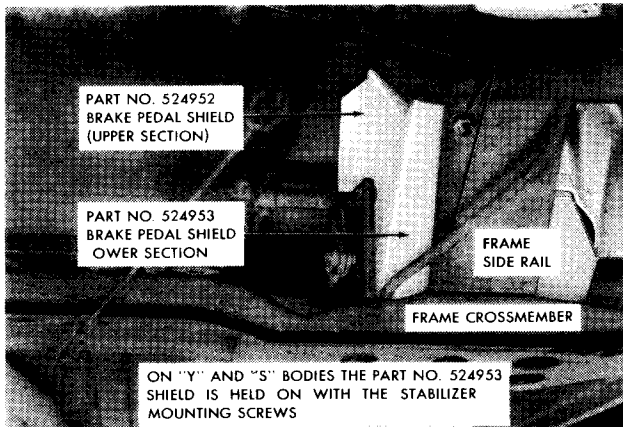

FIG. 5
4. **W-F-C-Q Bodies:** Slide brake pedal splash shield lower section, Part No. 524953, into position from the rear of the frame crossmember (see Fig. 5). Then move the lower lip inward (toward center of car) so that the holes just show at the edge of the side rail flange. Mark the bottom of the flange at these two points and measure in 1/2" from edge of flange and center punch the side rail flange at the location of the two fastening holes in the shield. Drill a 13/32" hole at each of these points. Place shield in position again so that the lip rests on the top of the side rail flange, align holes, and fasten securely with the 3/8"x1" screws, plain washers, lock washers and nuts.
**Convertible (S) and Land Cruiser (Y) Bodies:** Remove the two inner stabilizer bar mounting screws and slide the brake pedal splash shield lower section, Part No. 524953, into position from the rear of the frame crossmember with the lip of the lower section resting on top of the frame side member flange. Secure in place by reinstalling the two inner stabilizer bar mounting screws. See Fig. 5.